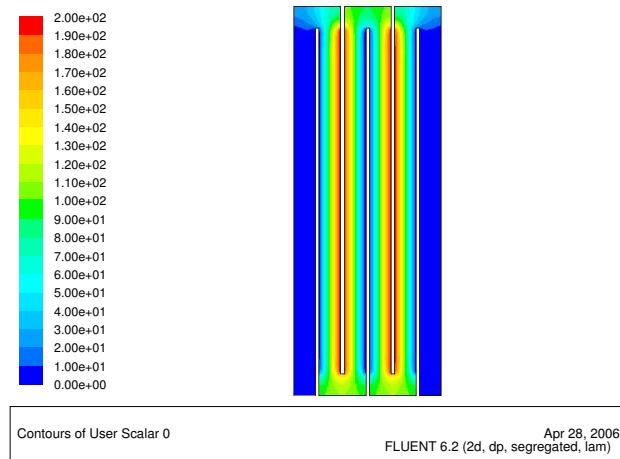

Figure 11.6: Contours of Electric Potential
3. Display filled contours of electric potential (Figure 11.6).